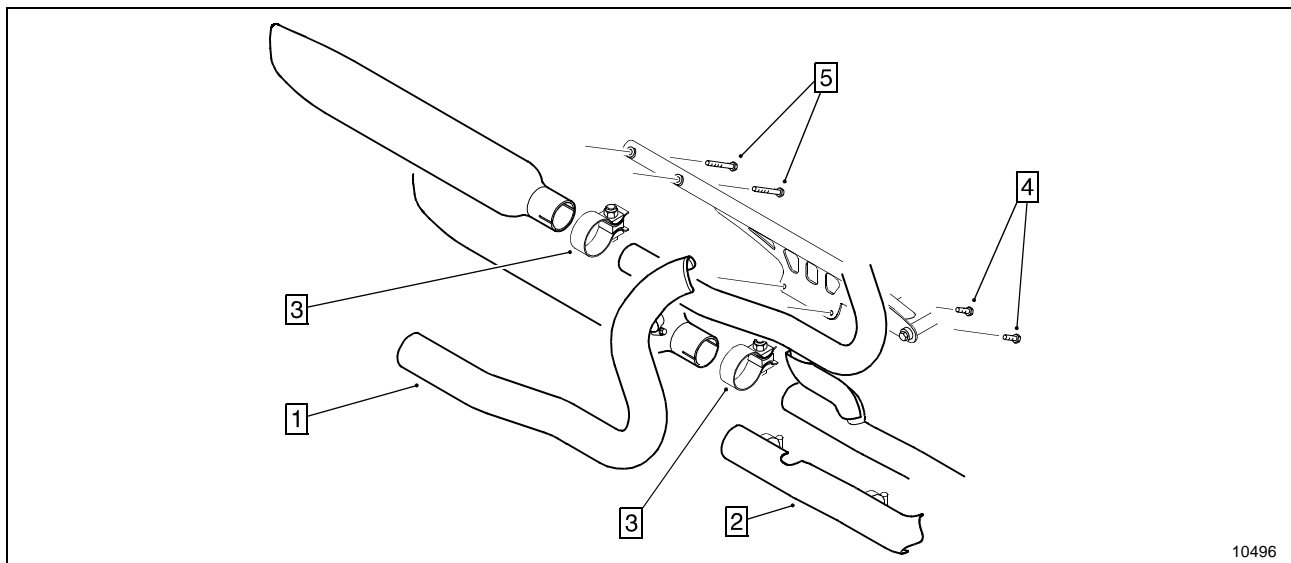

Figure 2
1. Remove the existing rear cylinder and lower front cylinder exhaust system heat shields (see Figure 2).